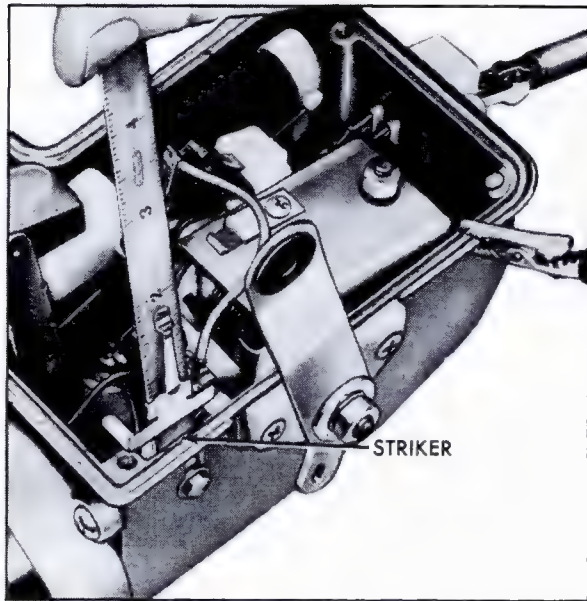

Fig. 15-16 Limit Switch and Throttle Switch Adjustment
4. Loosen screw securing striker to housing and move striker up until motor runs. Then slowly move striker down until motor just stops running, and tighten screw. Measure distance from housing to top of striker, Fig. 15-16, using a "T" scale. Increase measurement  $1/32''$  on "T" scale. Loosen screw securing striker to housing and adjust striker by placing "T" scale on housing and at top of striker, maintaining new dimension. Tighten screw.